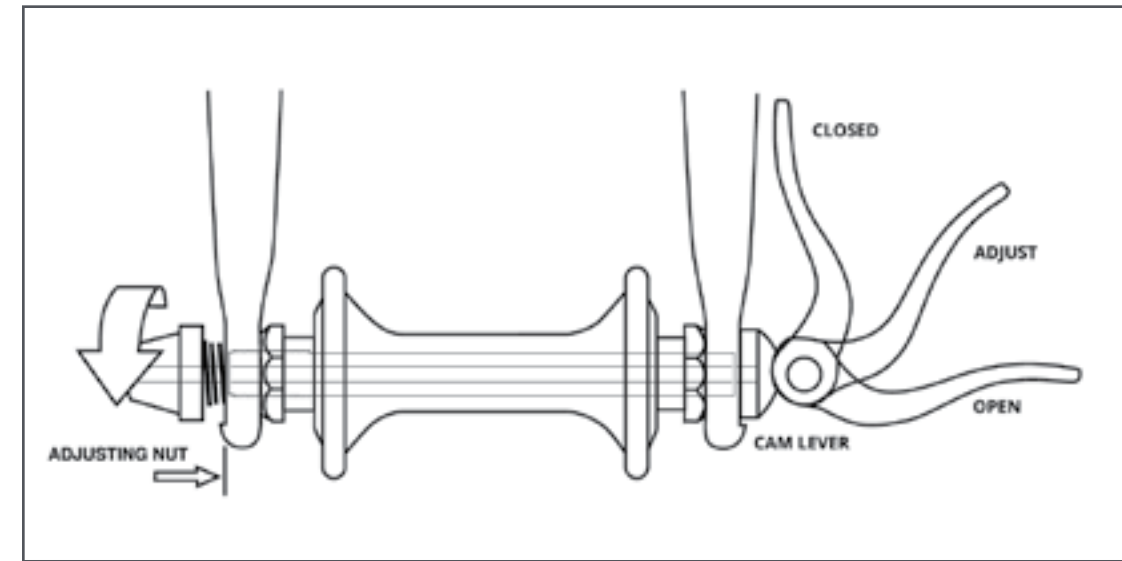
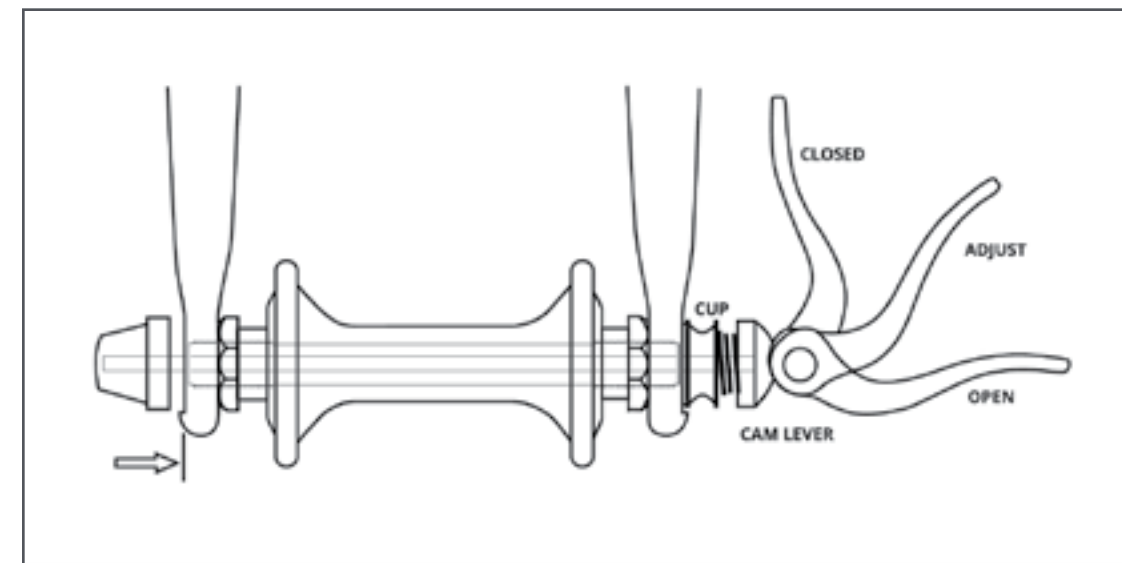

FIGURE 8A
FIGURE 8B
- A hollow axle with a shaft ("skewer") running through it which has an adjustable tension nut on one end and an over-center cam on the other (Cam Action System, Figure 8A and Figure 8b).
There are currently two types of over-center cam wheel retention mechanisms: the traditional over-center cam (Figure 8a) and the cam-and-cup system (Figure 8b). Both use an over-center cam action to clamp the bike's wheel in place. Your bicycle may have a cam-and-cup front wheel retention system and a traditional rear wheel cam action system.
A. ADJUSTING THE TRADITIONAL CAM ACTION MECHANISM (FIGURE 8A)
B. ADJUSTING THE CAM-AND-CUP MECHANISM (FIGURE 8B)